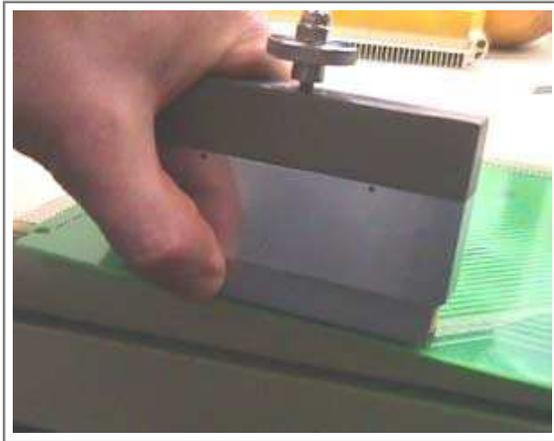

Figure 3
3. Press down on the extraction tool so it passes over the ends of the connector. Once it slides past the connector, press the retractable finger inward with your thumb and index fingers (lower left figure) to ensure engagement with the bottom of the housing. Then fully seat the extraction tool to the PCB, (See Figure 3).